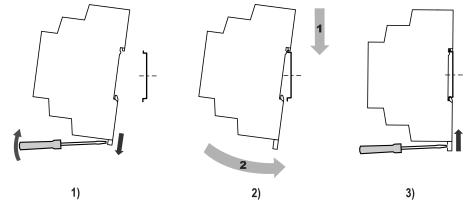

Fig. 2 - Installation
1. Place the device on a DIN rail as shown in Fig. 2.